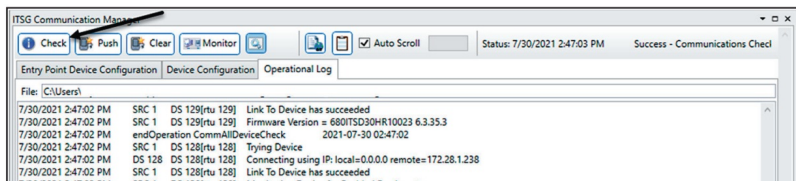

Figure 12. The communication Check button.
**STEP 1.** Open the communication manager and run a communication check to the controls by clicking on the Check button. See Figure 12.